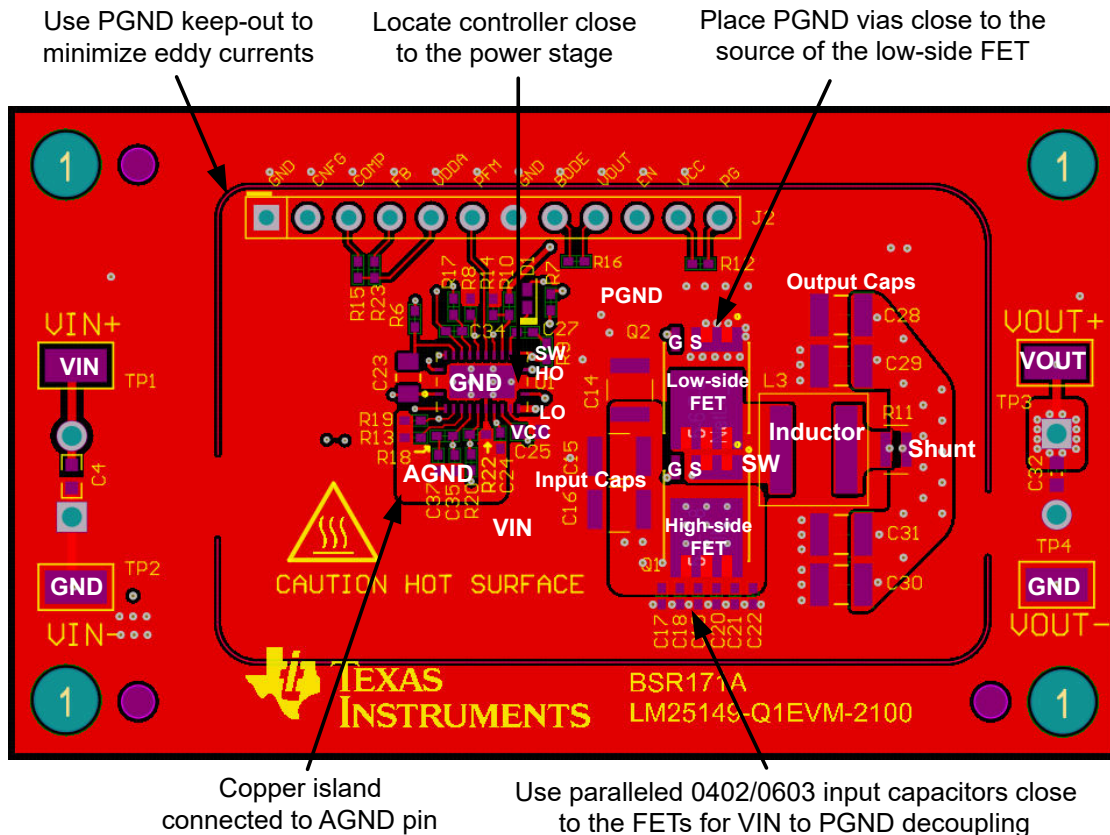

Figure 9-47. PCB Top Layer – High Density, Single-sided Design
Figure 9-47 shows a single-sided layout of a synchronous buck regulator with discrete power MOSFETs, Q1 and Q2, in SON 5-mm × 6-mm case size. The power stage is surrounded by a GND pad geometry to connect an EMI shield if needed. The design uses layer 2 of the PCB as a power-loop return path directly underneath the top layer to create a low-area switching power loop of approximately 2 mm2. This loop area, and hence parasitic inductance, must be as small as possible to minimize EMI as well as switch-node voltage overshoot and ringing.
- Make the ground connections to the LM5148 controller as shown in Figure 9-47. Create a power ground directly connected to all high-power components and an analog ground plane for sensitive analog components. The analog ground plane for AGND and power ground plane for PGND must be connected at a single point directly under the IC – at the die attach pad (DAP).